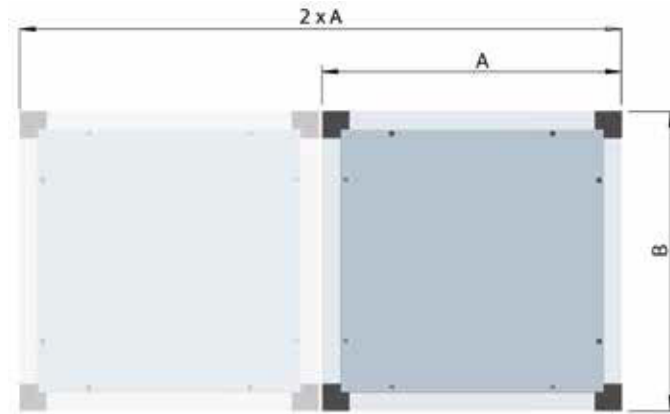

figure 8: Installation precondition
- » • Minimum distance at the motor side, in case a motor or impeller replacement (see fig. 8).
If a cablebushing through the panel is needed, please pay attention to the following notes and the instruction figure (figure 8).